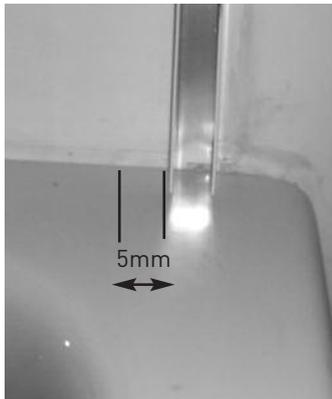

Figure a1
1. Fit the inner edge of the Wall Profile (A) 5mm in from the inside edge of the bath (**Figure a1**). Ensure the Wall Profile is completely vertical using a Spirit Level. Mark the holes with a pencil where the Wall Profile is to be positioned.
⑤	Ensure the external joint between the Bath Screen and the Fixed Panel is fully sealed.
⑥	Is the Wall Profile fitted to the inside edge of the Bath (Figure a1/a1i)?
②	Is the Wall Profile fitted to the inside edge of the Bath (Figure a1 / a1i)?
③	Is the Wall Profile completely vertical?